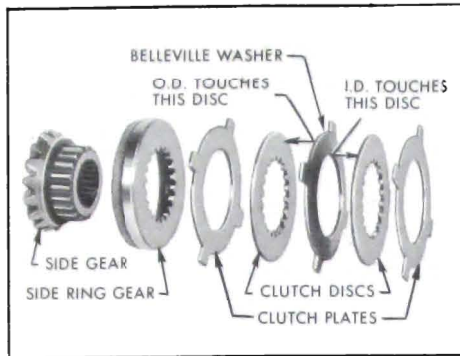

Figure 6-39—Clutch Pack
Each clutch pack consists of three clutch plates which are keyed to the differential case by external lugs, and two clutch discs which are splined internally to the side gear ring. The side gear ring is splined to the side gear which is in turn splined to the axle shaft. Whenever a load is applied to the differential, each side gear ring is forced outward, squeezing its clutch pack against the differential case. See Figure 6-39.
4. Oil clutch plates and discs thoroughly with the Special Positive Traction Lubricant or equivalent and install clutch packs. If inspection showed plates and discs to be in good condition, install original clutch packs on each side gear ring according to Figure 6-39. If any plates or discs were defective, install two new clutch packs.